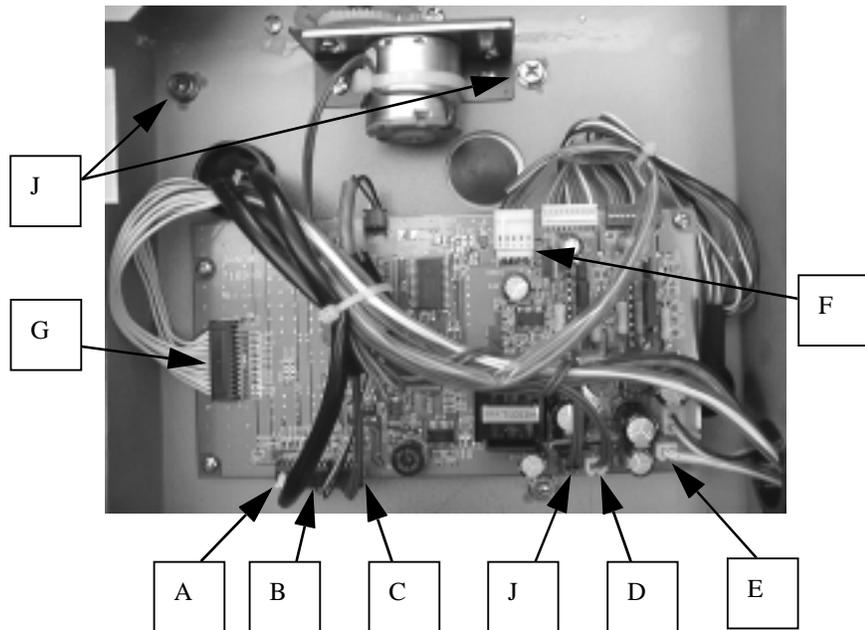

FIGURE 9-2
2. Disconnect the connectors of cords (A),(B),(C),(D),(E),(F) and (G) from A board. Fig.9-2
4. Remove the main body by removing 3 each of the hexagon socket head cab bolts (J) with the spring washers. Fig.9-2